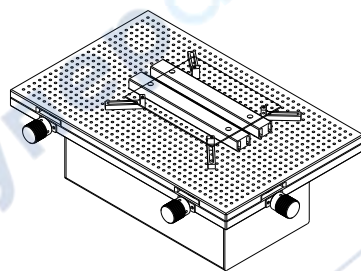

Fig. 7
- (8) When printing a single panel, the randomly configured fixed block is cushioned to the bottom of the PCB board as shown in Fig. 7.